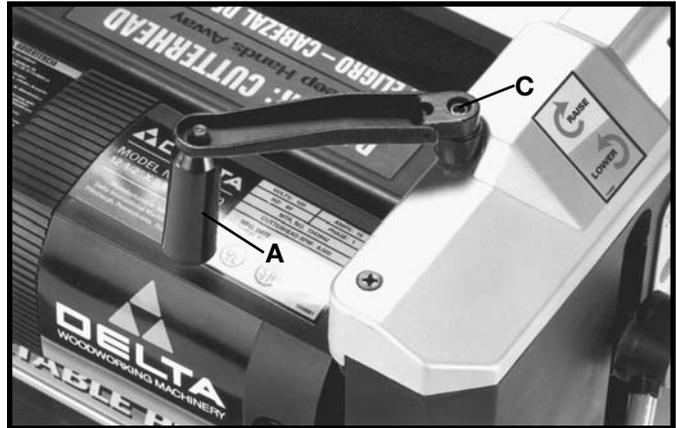

Fig. 8
2. Fasten cutterhead raising and lowering handle (A) Fig. 8, to shaft using the M5 x 20mm hex socket head screw (C) with wrench supplied.